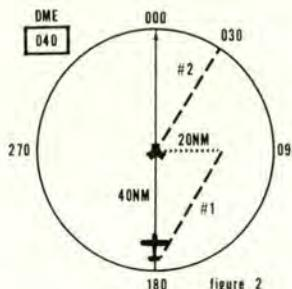

figure 2
Now, look at figure 2 and we will see how this works using the same problem as above. The greater of the distances is your range (40 miles), so the compass card will be 40 miles in radius. Your aircraft position is at the tail of the bearing pointer. Now, find the desired radial (090) and go out that line 20 miles from the station (halfway from center). Line 1 represents your flight path to the DME fix. To find what the no-wind heading will be, you simply slide this line parallel so that it passes through the center of the compass card (line Nr 2). You then read your no-wind heading to the fix where line Nr 2 intersects the edge of the compass card (030°).